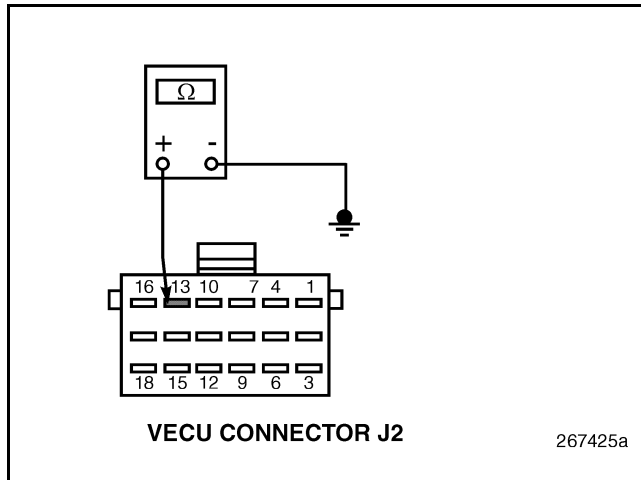

Figure 698
2. Check for continuity between VECU connector J2 pin 13 and a good ground (see Figure 698).